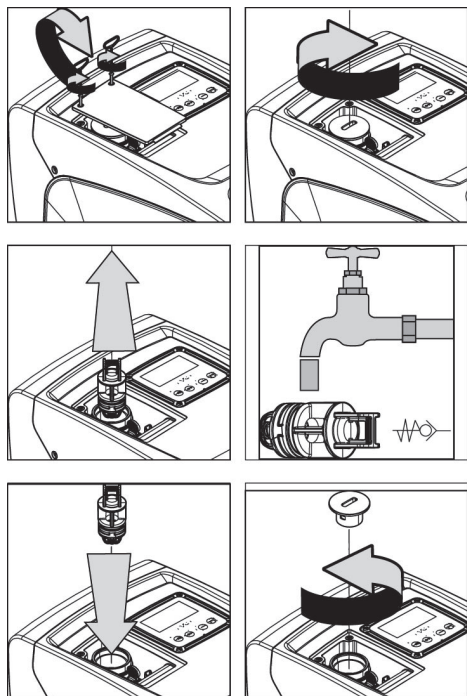

Figure 21
1. remove the access door to the special maintenance compartment (Fig.1 Face F) disengaging the 2 fixing screws with the accessory tool. It is advisable not to remove the screws completely, so that you can use them to extract the door. Take care not to drop the screws inside the system once you have removed the door (Fig.21);
2. using a screwdriver, remove the 1"1/4 cap so as to access the non-return valve (Fig.21);
3. using pliers, extract the cartridge of the non-return valve without rotating it, gripping it by the jumper provided for the purpose (Fig.21): the operation may require a certain effort;
5. put the complete cartridge back in its seat: the operation requires the force necessary to compress the 2 O-Rings (Fig.21);
6. Screw on the 1"1/4 cap until it is snug: if the cartridge has not been pushed correctly in place, screwing on the cap will complete its positioning (Fig.21);
7. reposition the door and tighten the 2 screws (Fig.21).